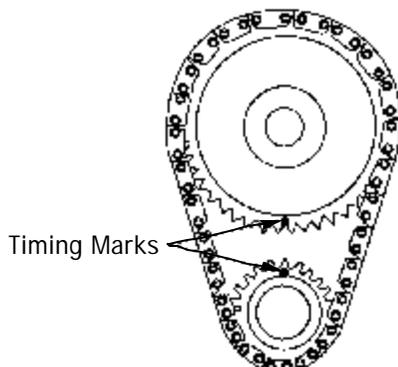

Figure 1 - Timing Mark Alignment
8. Rotate the crankshaft two full revolutions (use flywheel holding tool J-42386, if necessary). This will raise the lifters up into the lifter guides. The lifter guides will hold the lifters away from the camshaft so that it may be removed without the need to remove the lifters. Continue rotating the engine until the timing marks on the timing chain are in line (See Fig. 1). Remove the three bolts holding the camshaft sprocket and carefully remove the cam sprocket. You can allow the timing chain to rest on the crankshaft sprocket. (*NOTE: Now is a good time to inspect the timing set. Replace, if necessary, following the service manual procedure.*)
3. Replace the timing chain and camshaft sprocket. Make sure to align the timing marks on the cam and crankshaft sprockets (See Fig. 1). Using new bolts, tighten bolts to factory specifications (See service manual).
6. Make sure the timing sprockets are still aligned as shown in Fig. 1. If they are not, rotate the engine in the direction of operation until the timing marks are aligned. Tighten the rocker arm bolts in the sequence described below:
- A. With the timing marks aligned (Fig. 1), tighten exhaust valve rocker arm bolts 1, 2, 7, & 8 to 22 ft./lbs. Tighten intake valve rocker arm bolts 1, 3, 4, & 5 to 22 ft./lbs.